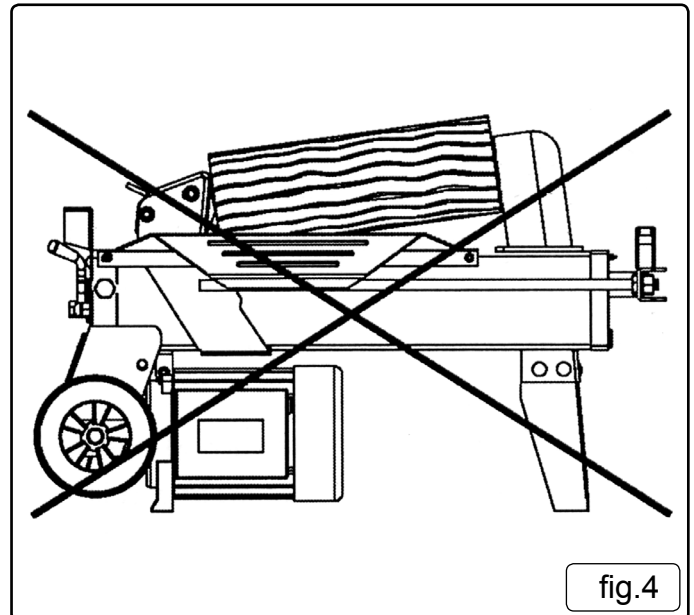

fig.4
- 6.6. **DO NOT** allow logs to ride up the splitting wedge as shown in fig.4. When pressure is applied to the upper part of the wedge only this could break the wedge or damage the machine.